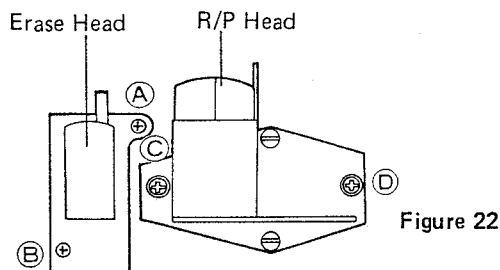

Figure 22
- (1) Remove two screws marked "A" and "B" to remove the erase head as shown in Figure 22.
- (2) Remove two screws marked "C", "D", to remove the R/P head with the P.C. Board as shown in Figure 22.
- (3) After replacement with the good heads, assemble them in the opposite way to the disassembly. After assembling, adjust the head azimuth, tilt angle and the height with the test tape. (Refer to page 6 for adjustment.)